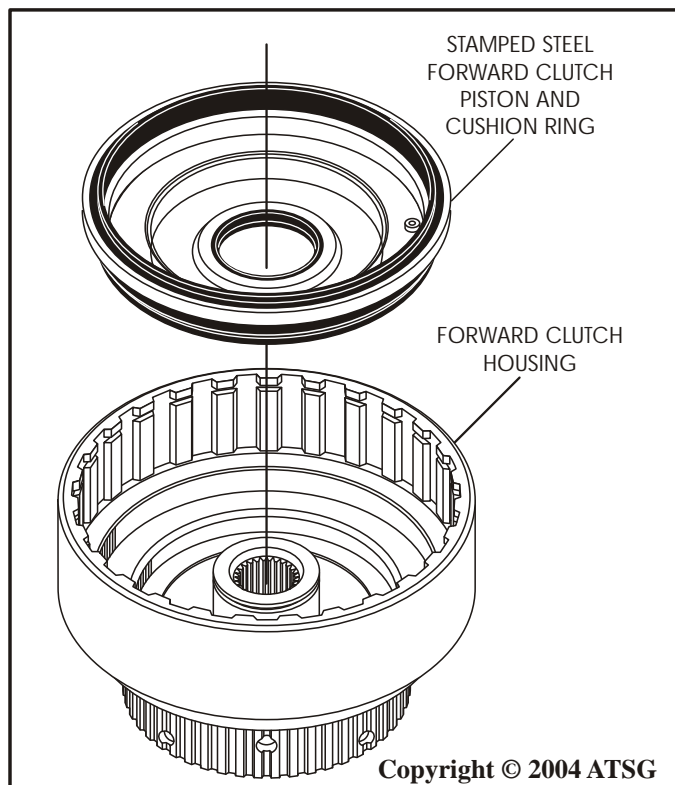

Figure 87
6. Lubricate both inner and outer lip seals on the stamped steel forward clutch piston assembly, as shown in Figure 87, with a small amount of Trans-Jel®.
7. Lubricate both seal surfaces in the housing with a small amount of Trans-Jel® and install the piston assembly with a twisting motion so as not to damage the seals (See Figure 87).